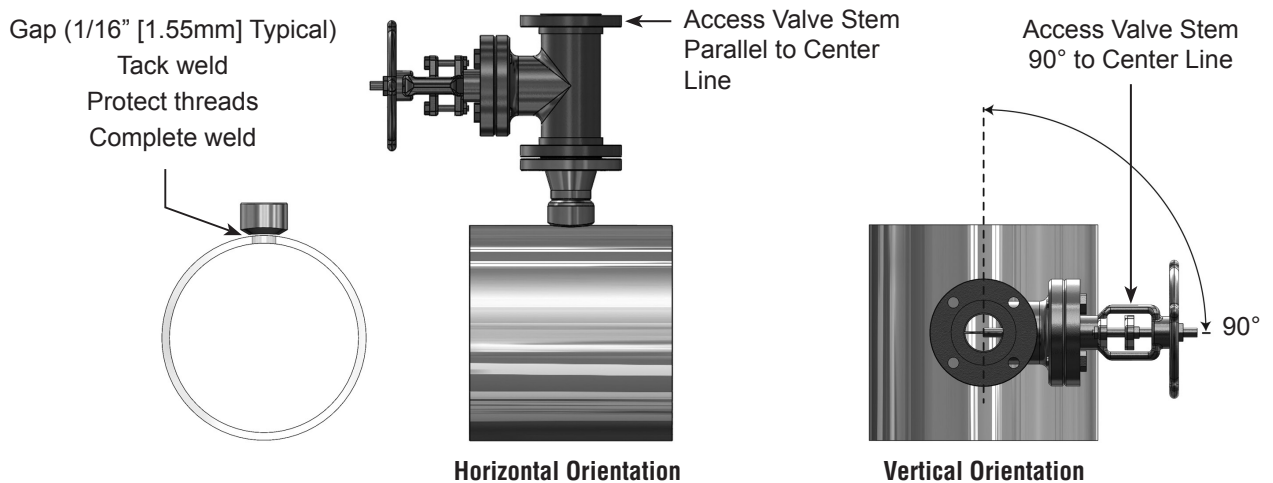

Figure 5. Access Valve
- Orient the valve such that the valve stem is parallel with the centerline of the pipe (Figure 5).
- Orient the valve such that the valve stem is perpendicular with the centerline of the pipe (Figure 5).